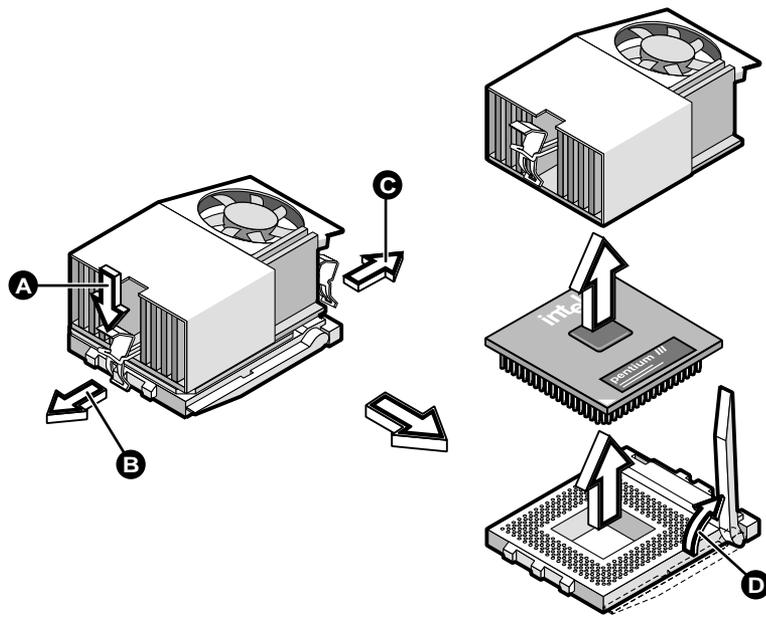

Figure 2-48 Removing a Processor
- Push on the releasing tab to unhook the metal bracket that is facing the rear of the system. See steps **A** and **B** in Figure 2-48.
- Lift the fan/heatsink assembly and unhook the other metal bracket. See step **C** in Figure 2-48.
4. Pull up the socket lever (see step **D** in Figure 2-48). The processor pins will be automatically released from the socket holes.
5. Lift the processor from the socket as shown in Figure 2-48.